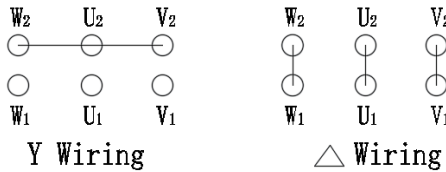
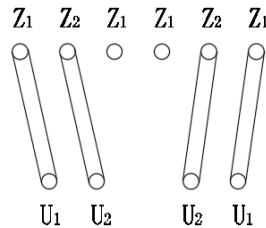

Figure 4
Figure 6
2. Wiring diagram of three-phase motor: see figure 4
2. Wiring diagram of single-phase motor: see figure 6
5.2.2 Check whether the running direction is the same as indicated by the arrow on the belt cover. If not, please refer to figure 4 or figure 6